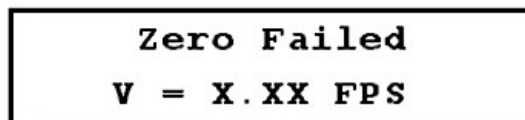

Figure 5–40. Zero set calibration failed
4. If Figure 5–40 is displayed, press any key and repeat steps 1 through 3 when the flow rate is within required limits.